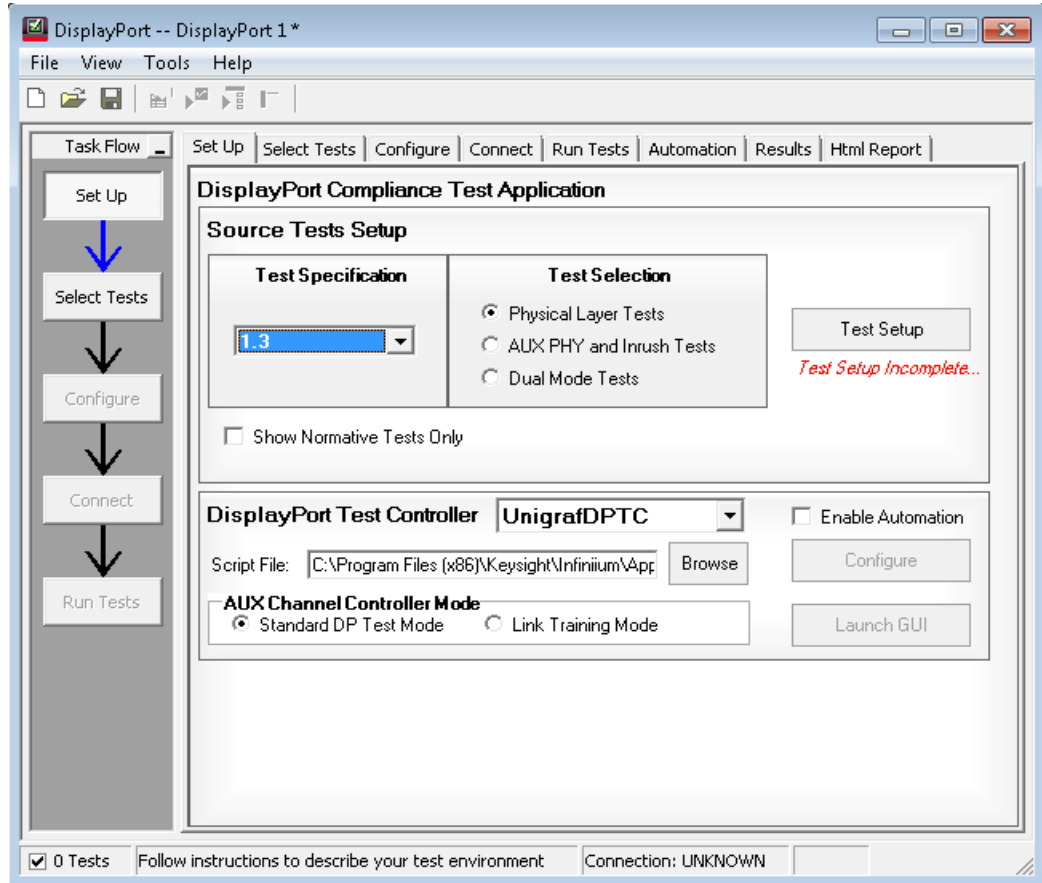

Figure 55 Set Up tab on the DisplayPort Compliance Test App
- 3 On the DisplayPort Compliance Test Application, click the **Set Up** tab (see Figure 55).